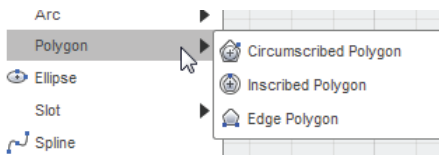

Figure-23. Polygon
The **Polygon** tool is used to create polygon of desired number of sides. There are three tools to create polygon in **Polygon** cascading menu; **Circumscribed Polygon**, **Inscribed Polygon**, and **Edge Polygon**; refer to Figure-23. The tools to create the polygons are discussed next.
- Click on the **Circumscribed Polygon** tool from **Polygon** cascading menu in **SKETCH** drop-down; refer to Figure-23. You will be asked to specify center point of the reference circle.